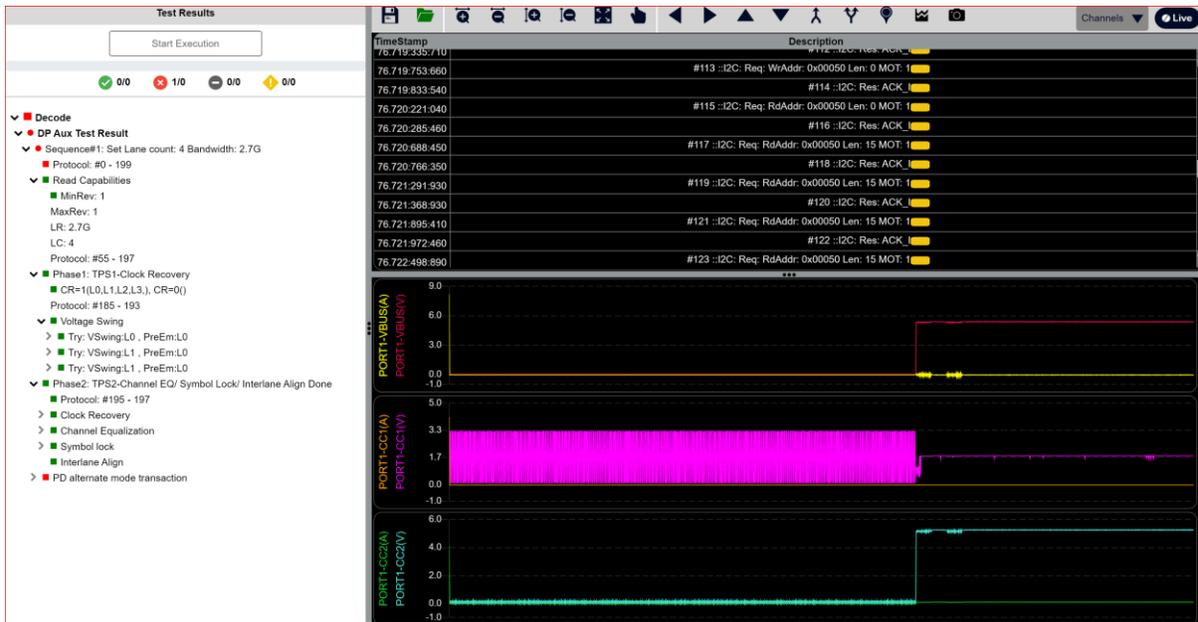

FIGURE 4.2: VIEWING MORE DETAILS ON DP-AUX TEST RESULTS
2. More details on the DP-AUX test protocol and Pass/Fail descriptions can be seen by expanding the test results drop down as shown in Figure 4.2 example.